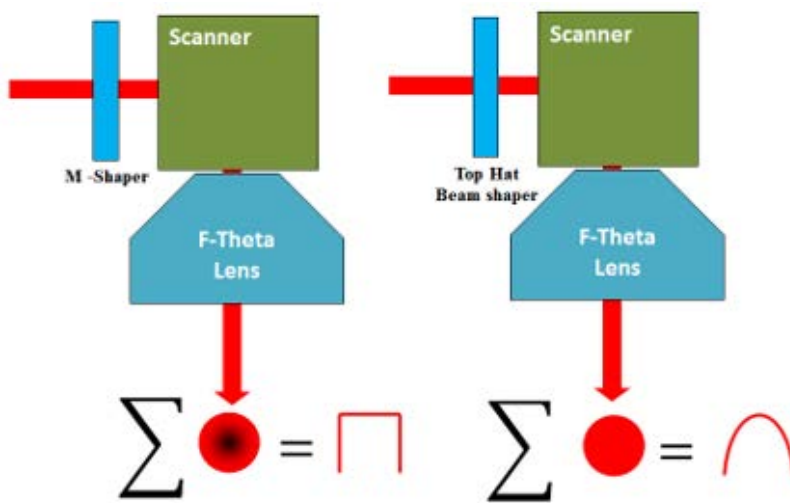

Figure 2: Schematic set-up and integrated (S) intensity profile across scan direction.
- Use a scanner lens (i.e. F-Theta lens) in order to achieve a well-focused spot at a certain distance, for all scanning angles, as shown in Fig.2.